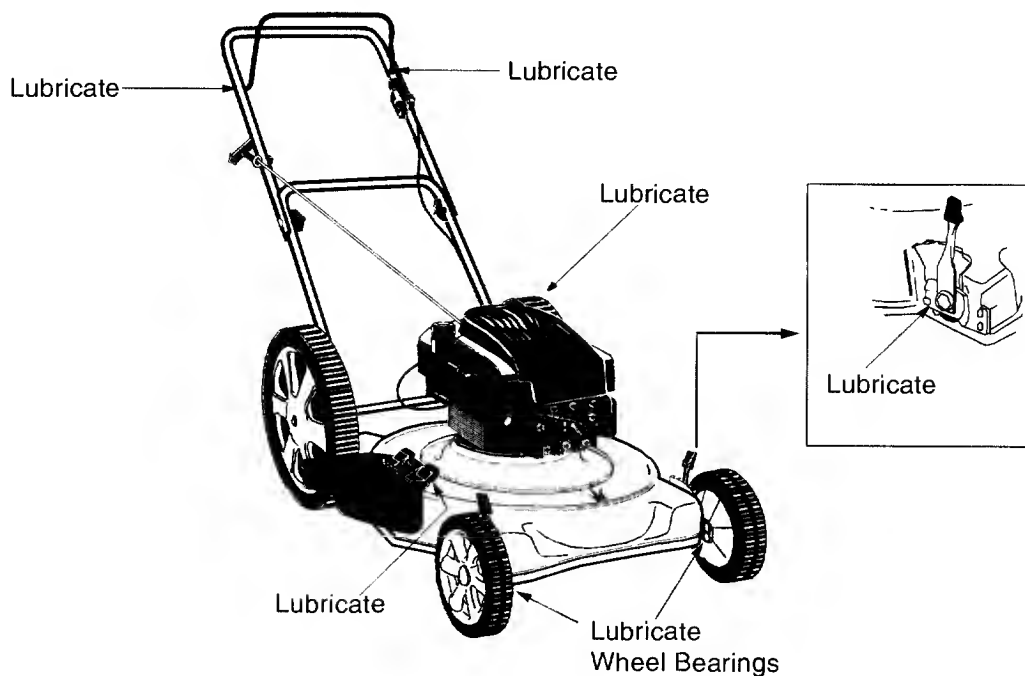

FIGURE 13
For complete lubrication chart, see Figure 13.
- Lubricate mower following the lubrication chart in Figure 13 on page 15.